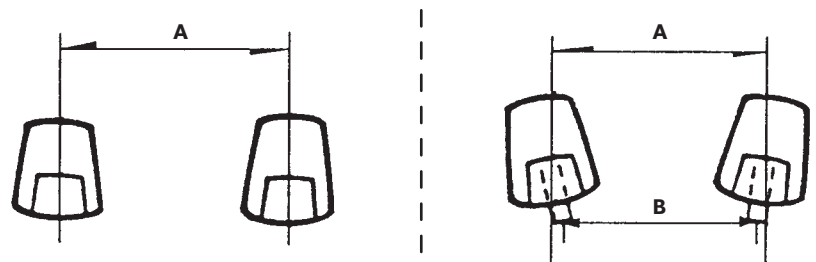

Figure 4.
- Set engines so that the toe-out position is less than 1". (See figure 4.)